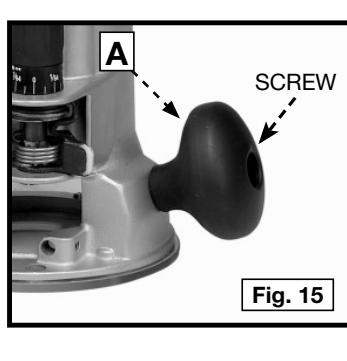

Fig. 15
1. Use a 5/16" hex wrench to loosen the screw in the handle (A) Fig. 15. Remove the handle from the router base. Store the handle and screw for possible later use.